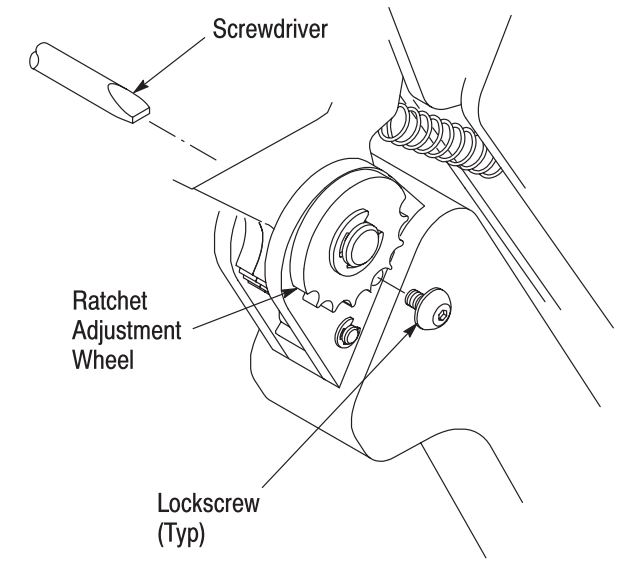

Figure 6
6.4. Ratchet Adjustment (Figure 6)